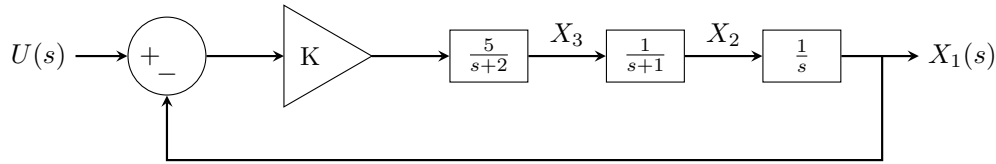

Figure 2: Closed-loop system with a proportional state feedback
- 4) Give the state-space equations of the system choosing the state variables x_1, x_2 and x_3 specified on Figure 2 (Model 2).